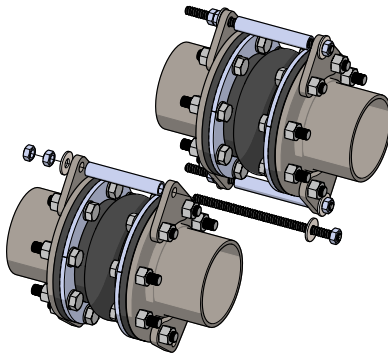

Figure 19: Control Rod with Compression Sleeve Installation
Step 7: Insert the staked control rod with the washer attached through the control rod plate holes. Then secure the additional hardware and compression sleeve to the control rod and control rod plates as shown in Figure 19. Replace flat washers with spherical washers whenever application requires.